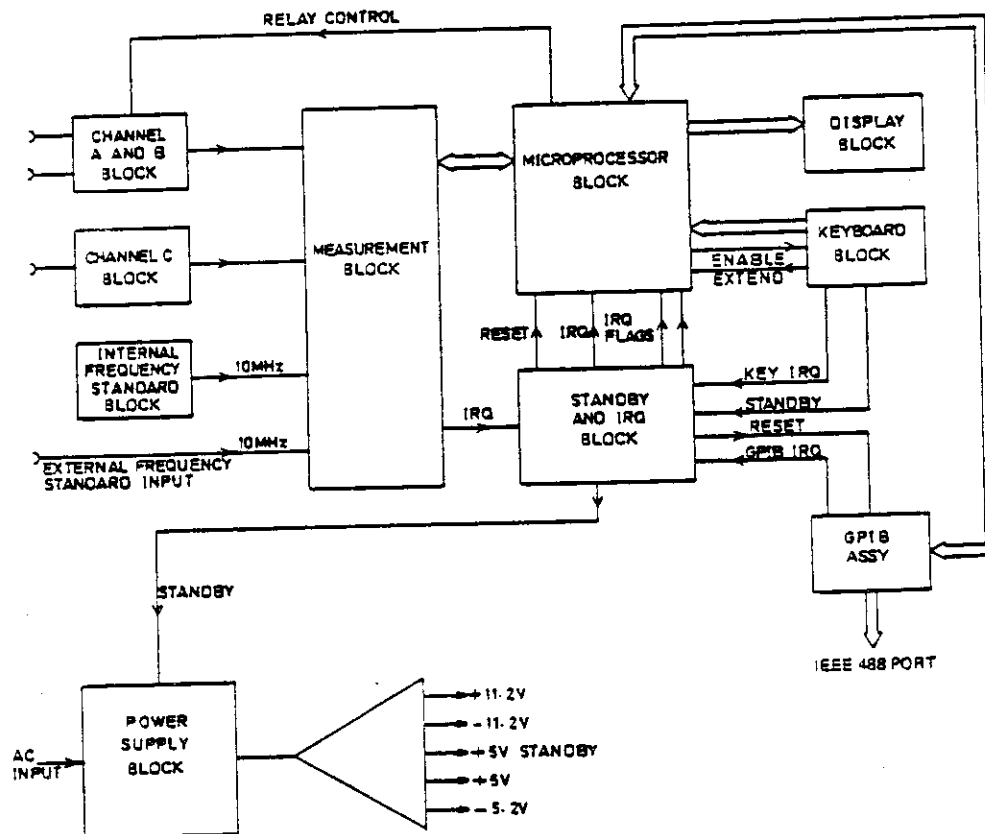

Figure 5.1 - Simplified Overall Block Diagram
5.1.2 The theory of operation provided is based on the simplified overall block diagram shown in Figure 5.1. Key circuit blocks of the 1991/1992 are described and supported in this section using simplified block and schematic diagrams. These diagrams supplement the complete schematics found in Section 7 of this manual. As much as possible, the simplified schematic and block diagrams provided here use the same reference designators found in the complete schematics. This should facilitate cross-referencing between this section of the manual and the schematics.
5.2.2 The functional relationship between the blocks of the 1991/1992 is illustrated in Figure 5.1. The measurement block is internally configured by the microprocessor according to the instructions entered via the keyboard or over the GPIB. The signal to be measured and the signal from the frequency standard are fed to the measurement block. The measured result is passed to the microprocessor. If mathematical manipulation of the result is required, this is performed by the